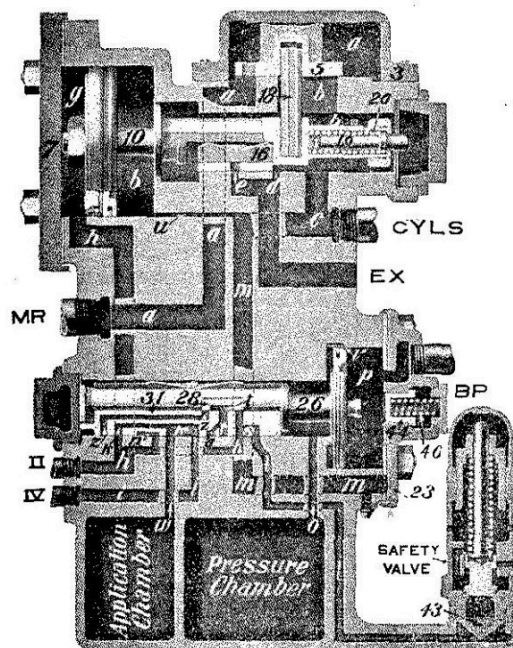

Fig. 8: Release, Automatic or
A. Referring to Fig. 8, the connection marked "MR" is the main reservoir supply pipe; "II", application cylinder pipe; "IV", distributing valve release pipe; "BP", brake pipe; "CYLS", brake cylinder pipe.
allowing the brake cylinder air to escape to the atmosphere, through the exhaust ports "e" and "d". (See Fig. 8.)
A. Its purpose is to assist the brake valve in venting brake pipe air when an emergency application of the brake is made, and is located on the brake pipe side of the distributing valve in place of the plain cap. (See Figs. 8 and 11.)